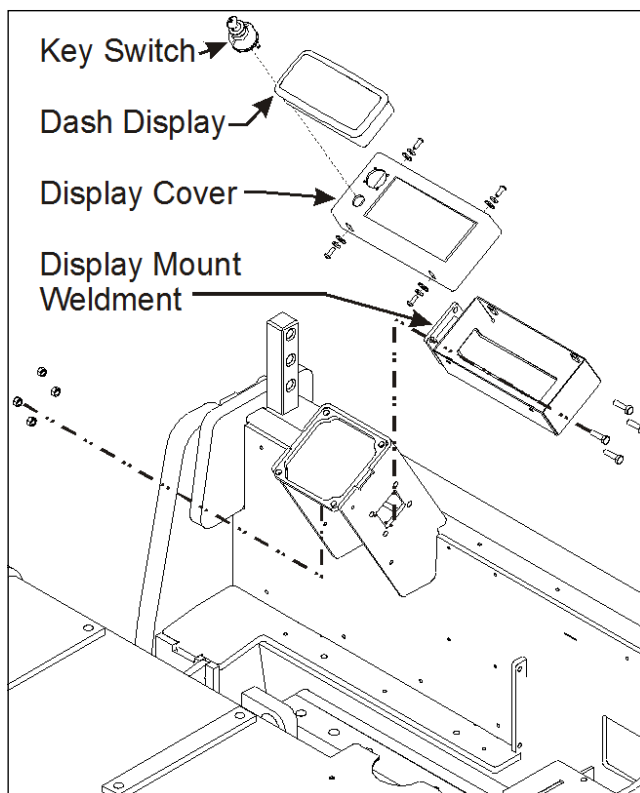

Figure 4-1 Dash Console Assembly
3. Remove the M6 - 1.0 X 16 bolts to allow the display cover to separate from the display weldment. **See Figure 4-1.**